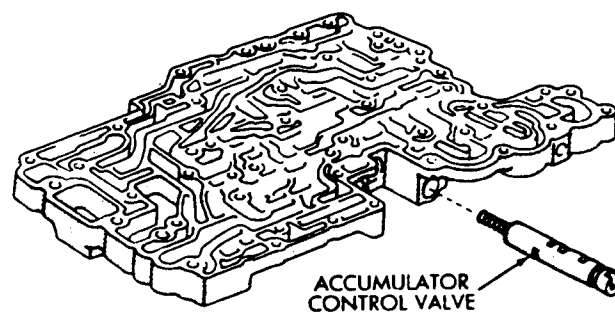

Fig. 10 Removing/Installing Accumulator Control Valve Assembly
(1) Lubricate lower body components with automatic transmission fluid.
(2) Install spring and accumulator control valve in sleeve (Fig. 11). Then install assembled components in lower body (Fig. 10).
(3) Press accumulator control valve assembly into valve bore and install retainer (Fig. 10).